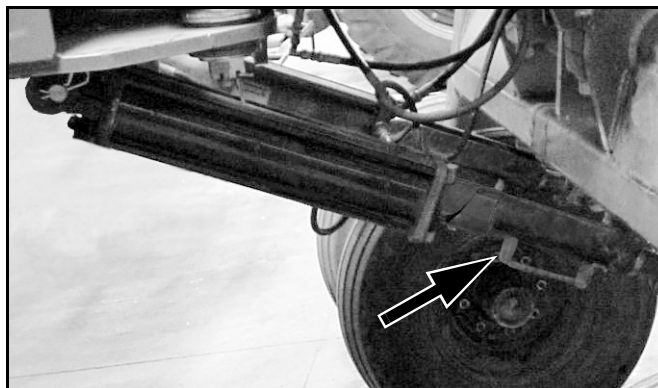

Figure 33
3. Rotate cylinder lock channels off cylinder rods of transport lift cylinders and front box lift cylinder. See Figure 33.